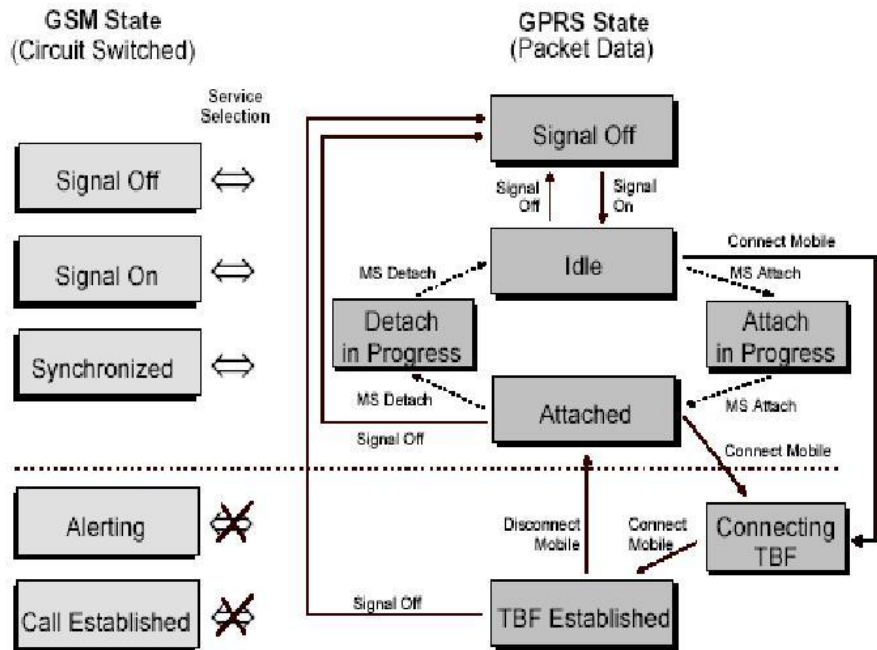

Figure 15 - (E)GPRS states in CMU
Figure 15 again shows the internal states in the CMU. GSM and (E)GPRS are identical up to the 'Attached' and 'Synchronized' state, i.e. a circuit-switched call is also possible in the 'Attached' state.